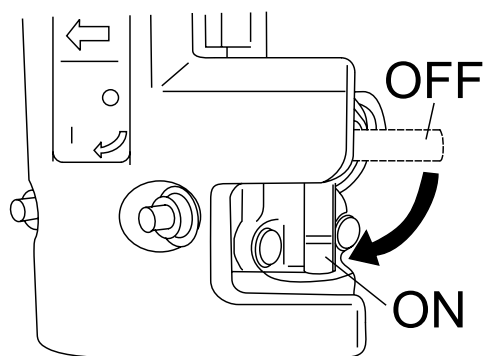

Figure 19. Engine Fuel Valve Lever (ON)
1. Place the engine fuel valve lever (Figure 19) in the "ON" position.